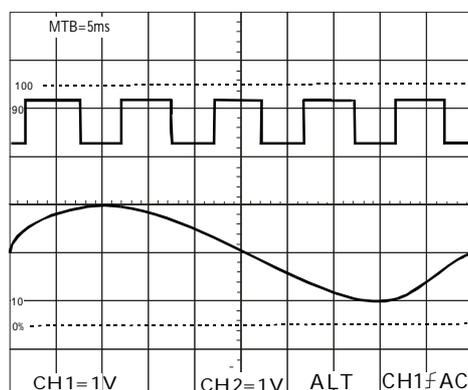
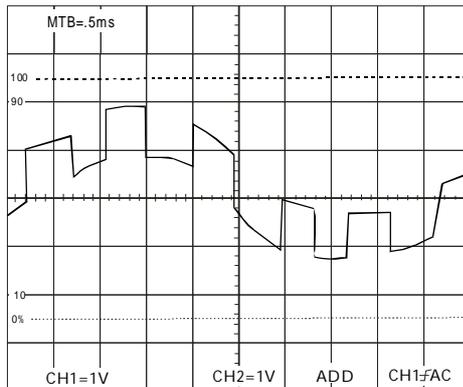

Figure 5-5 Both typical waveforms
Figure 5-6 Typical ADD waveform
- 1 . Set the CH1 and CH2 on. The figure 5-5 below shows two synchronous waveforms in the both modes.
1. Set the ALT/CHOP/ADD button to ADD mode. The figure 5-6 below shows the sum of the waveforms from figure 5-5.